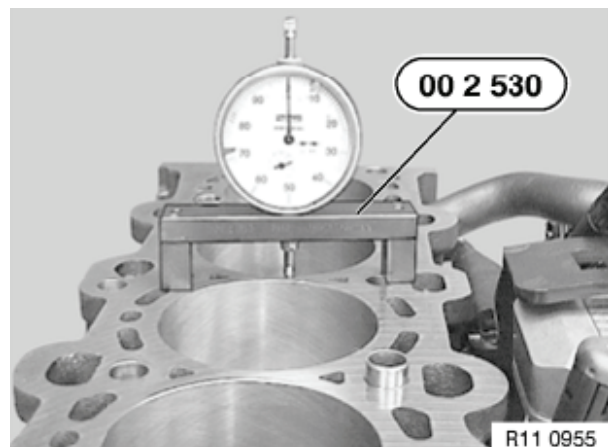

Figure 5-33
3. Place a dial indicator with measuring fixture OEM No. 00 2 530 on clean cylinder block (**Figure 5-33**). Set the dial to zero.